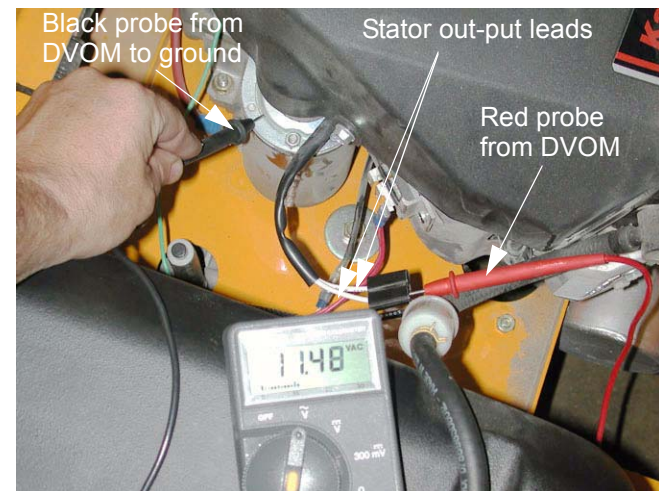

Figure 10.18
10.18. To test stator out-put, disconnect the plug from the regulator / rectifier. Start the engine, and run it at full throttle. Checking A.C. voltage at each white wire should yield a reading of roughly 11 volts. See Figure 10.18.